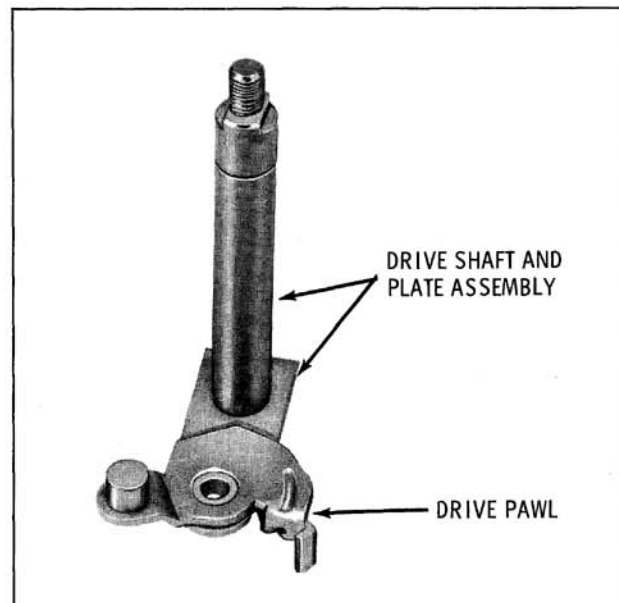

Fig. 13-191 Drive Pawl
1. Position drive pawl on drive plate as shown in Fig. 13-191.